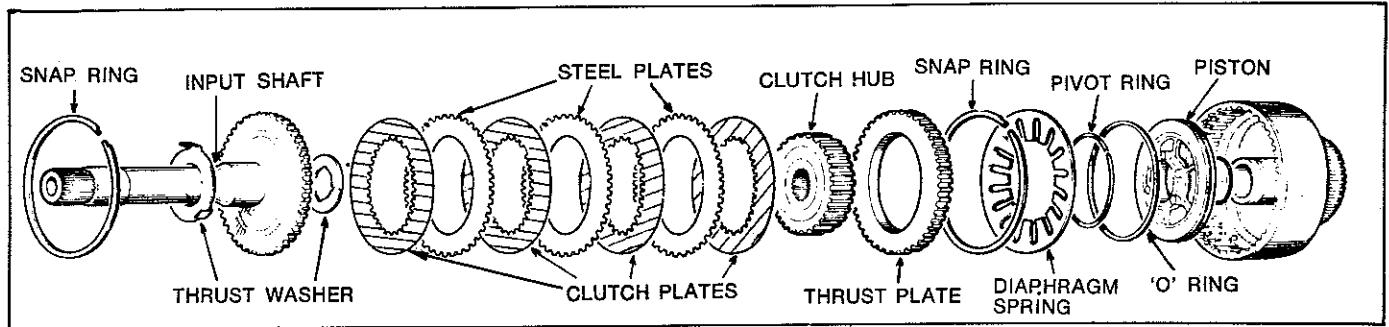

Fig. 37—Front clutch assembly (disassembled view)
- (1) Remove snap ring (using screwdriver) from front clutch retainer.
- (2) Remove the input shaft assembly and disassemble the clutch components (Refer Fig. 37) (discs are interchangeable with rear clutch). Refer to specifications for correct number of plates and discs.